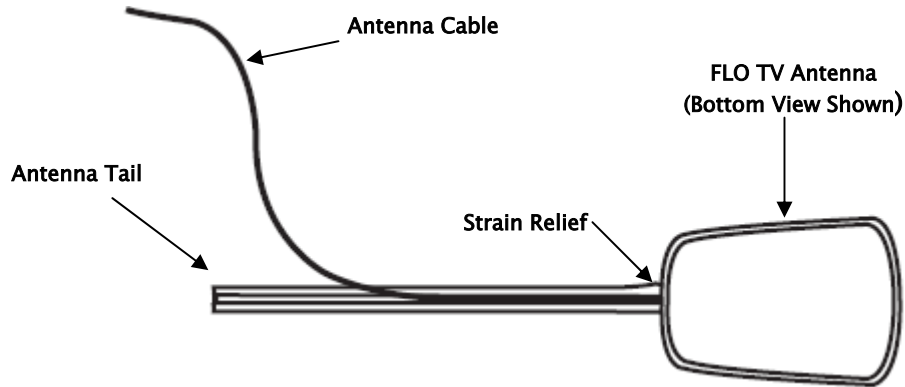

Figure 5 - FLO TV Antenna Tail Installation
5. Starting at the strain relief on the FLO TV Antenna, attach the antenna tail to the FLO TV Antenna. Press the antenna cable into the wire track in the antenna tail. (See Figure 5, FLO TV Antenna Tail Installation)